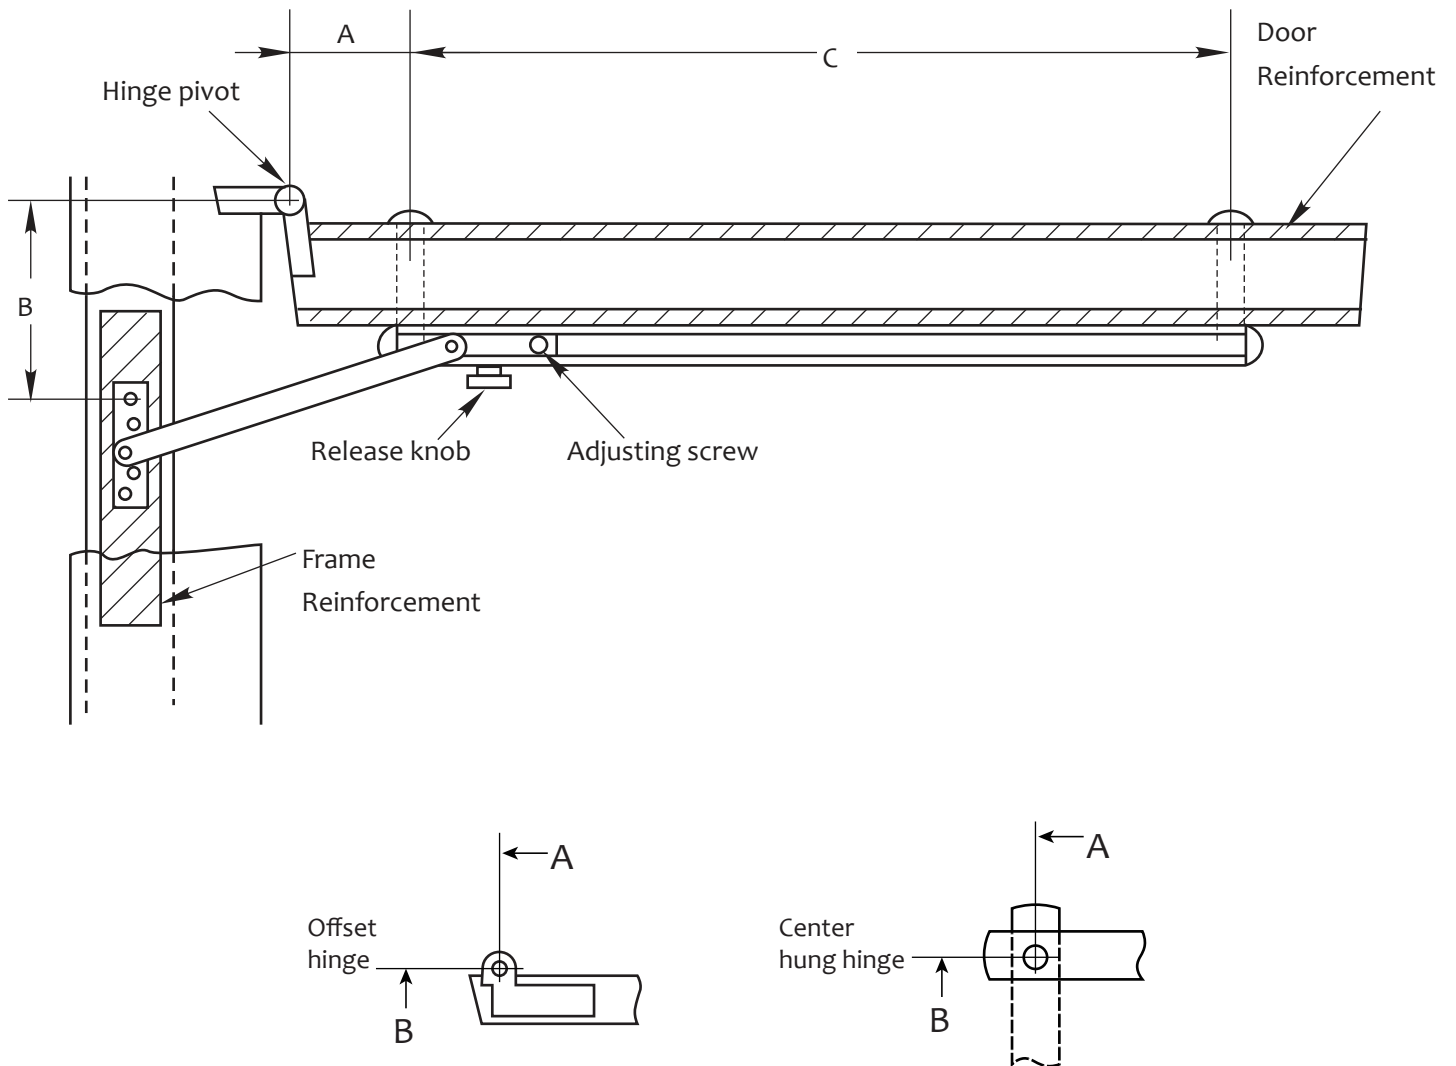

Figure 1 Installation diagram
- Select the correct dimensions from Figure 4 for Figure 1, according to the door opening and opening angle.
- Select dimension A and C, mark on the door for channel. (Figure 1)
- Select dimension B and mark on the door frame for jamb bracket. (Figure 1)
2. Drill and install channel (Figure 1)
- Drill 5/16" through holes at dimensions A and C, 3/4" below the top door frame respectively, ensure holes A and C are level and parallel to the top door frame. (Figure 1, 3)
- Install the jamb bracket on the door frame according to dimension B. (Figure 1, 2)
Note: The jamb bracket shall be reinforced with a backer plate not less than 3/16" thick and 12" long. (Figure 1)